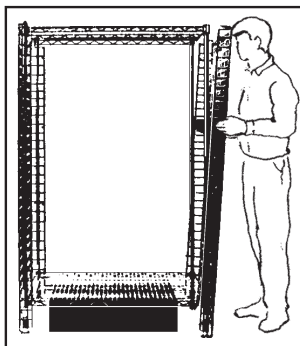

figure 4
- B. Place (5) end panels in position as shown in *figure 4*. Note end panels have large wire loops at bottom and small wire loops at the top. Tip unit slightly so bottom loops slide over bottom of posts and then fit over the top of the posts. Secure in place using (6) bolts.